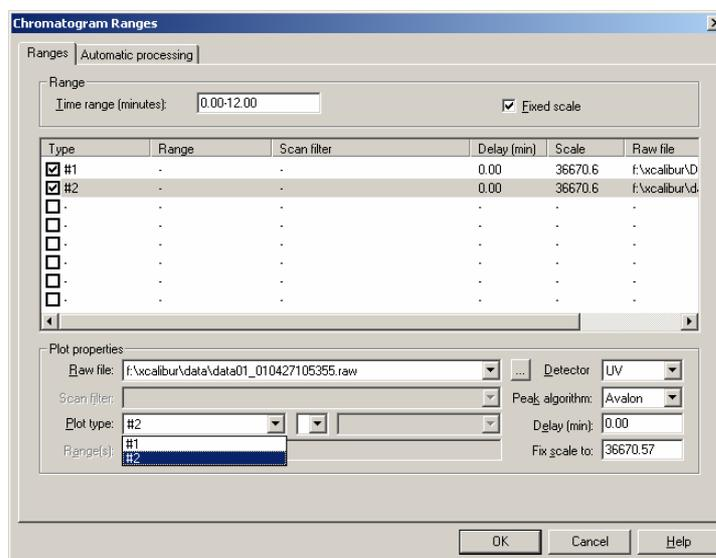

FIGURE 2-45 The Chromatogram Ranges Window
- e) Use the items *Ranges...* and *Display options...* of the **View** menu in the **Real Time Plot** window to adapt the chromatogram plots to your individual needs. When choosing *Ranges...* the **Chromatogram Ranges** window appears (FIGURE 2-45).